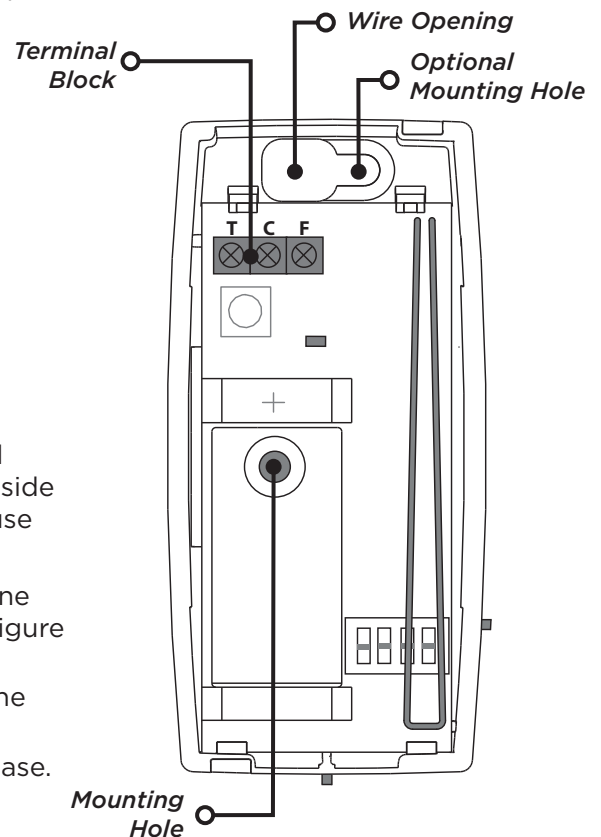

Figure 5: Mounting Holes and Terminal Block
1. Hold the transmitter base on the wall and place one screw into the mounting hole location shown in Figure 5 and secure the housing to the surface.